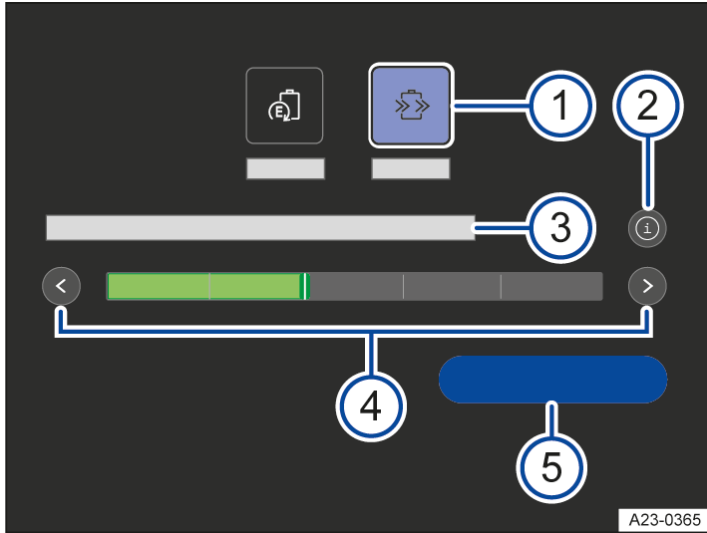

Fig. 1 Infotainment system: function buttons and displays for Hybrid operating mode (illustration).
1. Select **Hybrid** operating mode → Fig. 1 ①.
2. Tap the **Set manually** function button → Fig. 1 ⑤.
3. To set the charge level to be reserved, move the control using the arrows → Fig. 1 ④.
1. Tap in the operating mode selection → Fig. 1 ②.